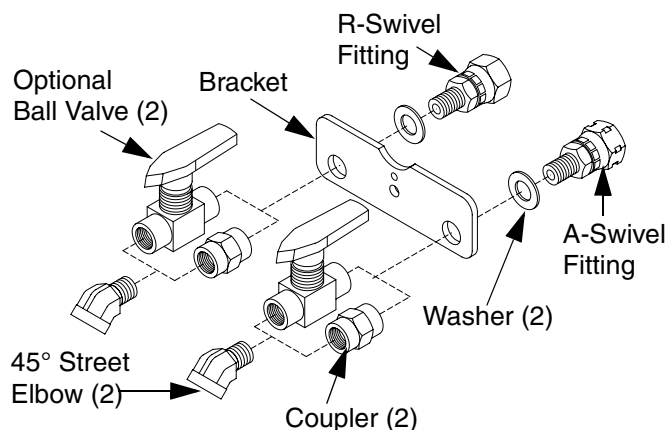

FIG. 2: Hose Bracket Fitting Installation
7. Install fittings on hose bracket as shown in FIG. 2. Do not rigidly mount fittings to hose bracket.